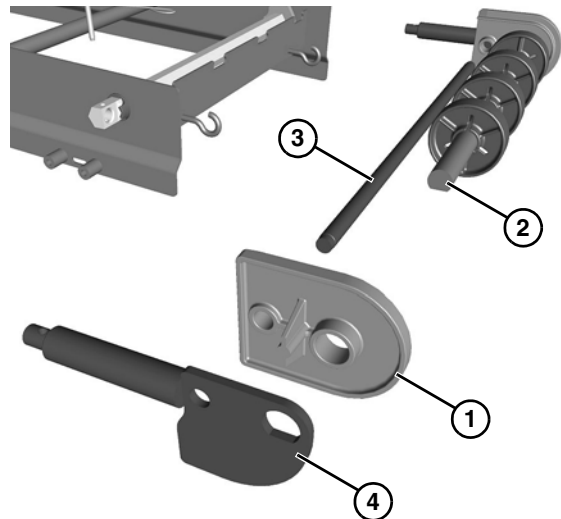

Figure 71
3. Install the tracking plate (Figure 71, item 1) to each side onto idler shaft (Figure 71, item 2) and pinch guard shaft (Figure 71, item 3).
4. Install the shaft assembly (Figure 71, item 4).